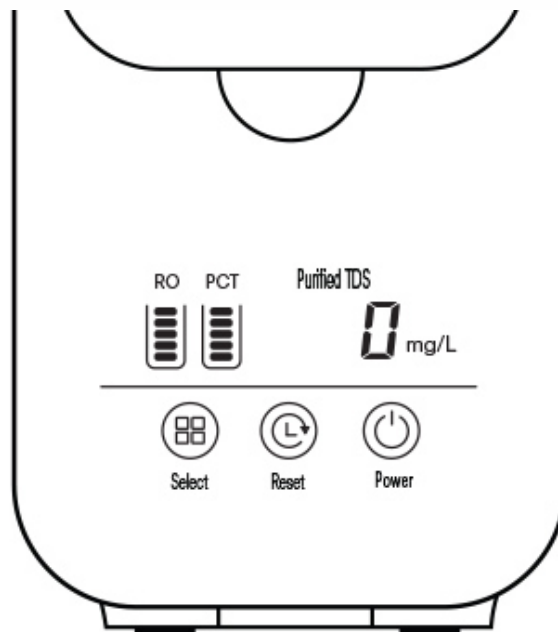

Figure 10
**NOTE:** The system will beep. The filter life indicators will flash on and off and white line will move from right to left multiple times while system initiates (Figure 10).